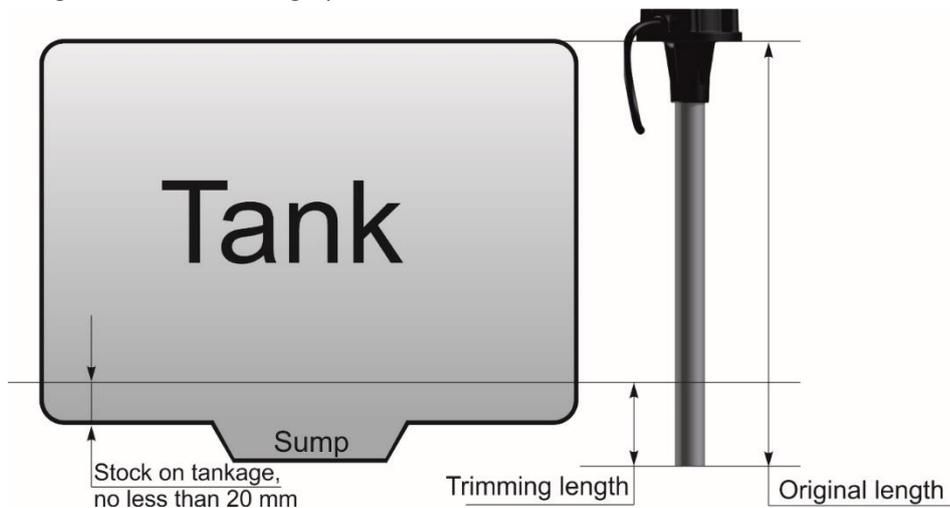

Figure 15 - Diagram of the sensor cutting
- 2. Trim the sensor to the desired height - see Fig. 15. Use hacksaw to saw off the aluminum tube to the height of the tank, leaving not less than 20 mm between the end of the sensor and the bottom of the tank for accumulation of water and dirt. Thoroughly clean aluminum shavings between handsets. Remove bevel from the tubes.